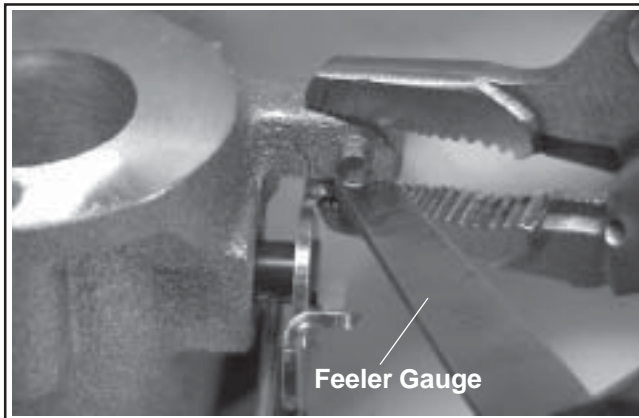

Figure 5B-39. Inserting Feeler Gauge (Engines Without Stop Screw).
- b. On engines with a stop screw, pivot the throttle shaft and plate into the “Full Throttle” position, so the tang of the throttle shaft plate is against the end of the high-speed stop screw. See Figure 5B-38. Temporarily clamp in this position.